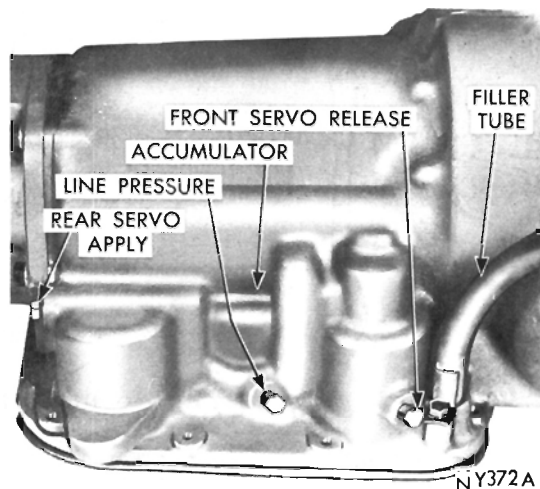

Fig. 37—Pressure Test Locations (Right Side of Case)
(2) Connect two 0-100 psi pressure gauges, Tool C-3292 to the pressure take-off-points at the side of the accumulator and at the front servo release (Fig. 37).
(3) With the control in D (drive) position, speed up the engine slightly until the transmission shifts into direct. (Front servo release will be pressurized in direct.) Reduce the engine speed slowly to 1,000 rpm. Line pressure at this time (1,000 rpm) must be 54-60 psi, and the front servo release pressure must not be more than 3 psi below the line pressure.
(4) Disconnect the throttle linkage from the transmission throttle lever and move the throttle lever gradually to the full throttle position. Line pressure must rise to a maximum of 90-96 psi just before or at kickdown into low gear. Front servo release pressure must follow the line pressure up to the kickdown point and should not be more than 3 psi below the line pressure.